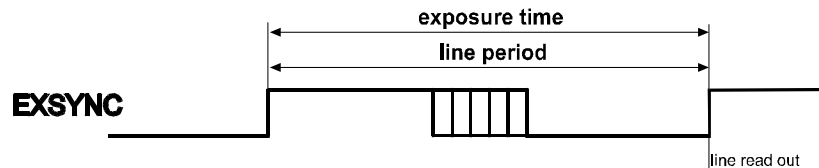

Figure 3-3: Exposure Time in Edge-controlled Mode
- In the edge-controlled mode, charge is accumulated over the full line period. The falling edge of ExSync is irrelevant. The line is read out and transferred with the rising edge of ExSync. See Figure 3-3.